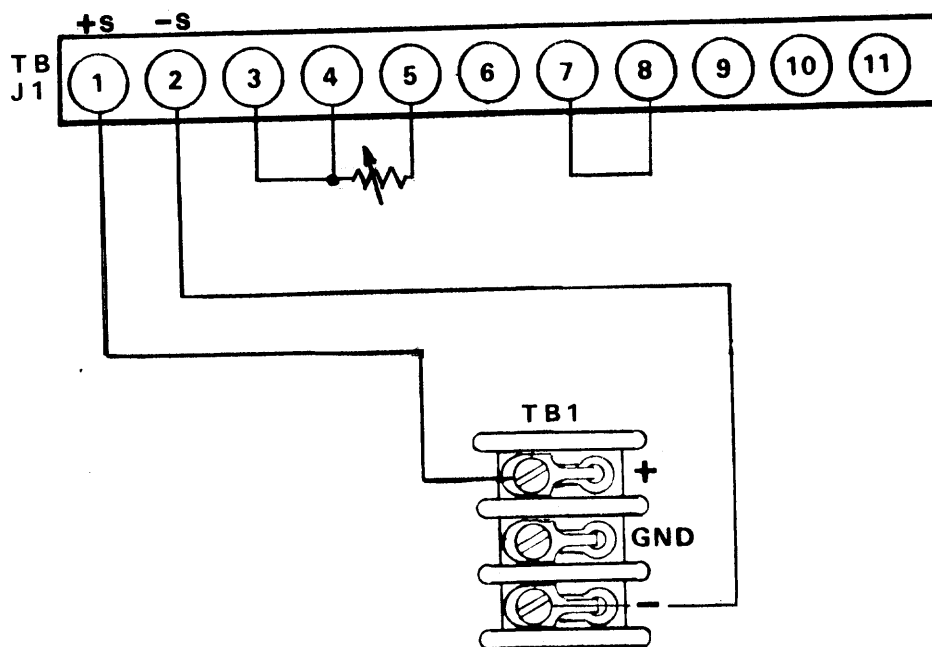

Figure 3-3
3.2.3 Resistance Programming (Figure 3-3)
2. Remove link between terminals 5 and 6, and connect programming resistor between terminals 4 and 5 (Figure 3-3). Use shielded or twisted wire for interconnecting leads.